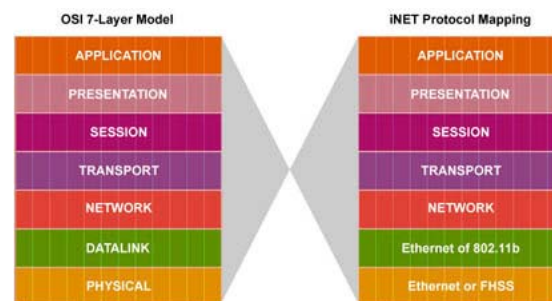

Figure 3. 7-Layer OSI Stack
2. **Protocols:** It is possible to mix polling systems with 'report by exception' systems on the same radio network, at the same time, without causing data collision on the radio channel. This is possible because IP networks can utilize a variety of protocols, such as TCP (transmission control protocol), that guarantee delivery of the data packets and correct any errors that may occur during transmission. See fig. 3.